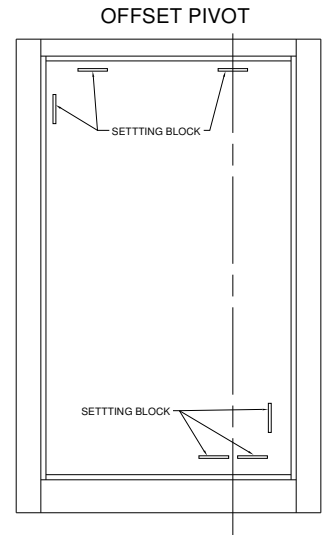

Figure 21:
3. Insert the setting blocks (red bag) according to the image that more closely resembles the product (Figure 21 or 22).
2. Insert the setting blocks (red bag) according to the image that more closely resembles the product (Figure 21 or 22).